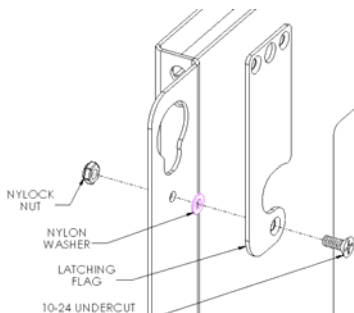

Figure 2
1. Attach latching flag to mount using the 10-24 undercut screw, Nylon washer, and Nylock nut (see Figure 2). Tighten until friction will hold the flag in place.